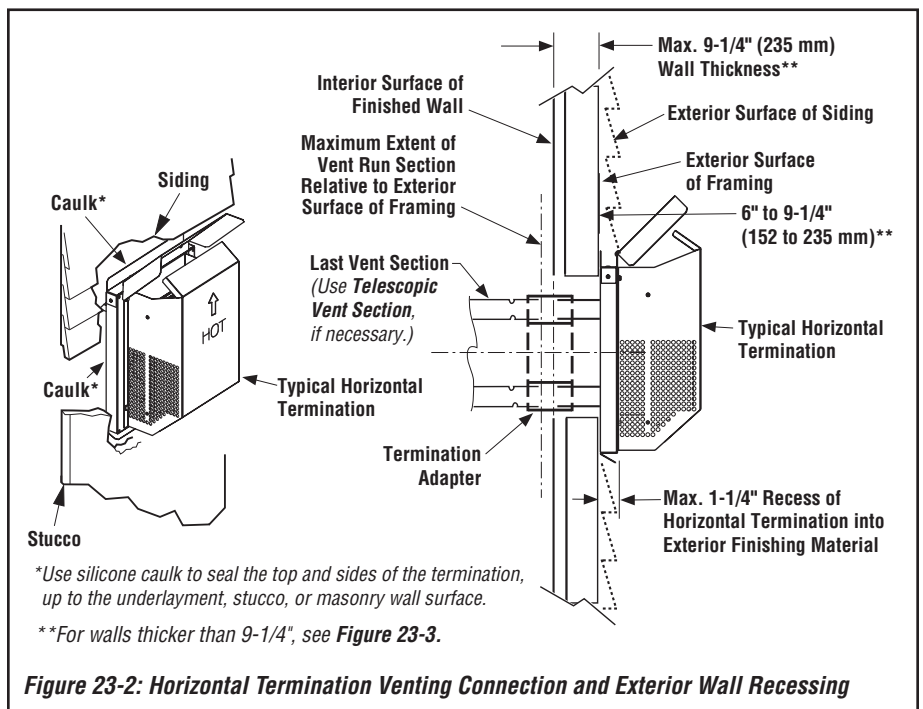

Figure 23-2: Horizontal Termination Venting Connection and Exterior Wall Recessing
Note: For walls thicker than those shown in *Figure 23-2*, see *Figure 23-3*, which lists additional venting components needed (in addition to the termination and adaptor) for a particular range of wall thicknesses.
See *Figure 23-2*. Attach the **termination adaptor** (provided with the termination) to the vent section (or telescoping vent section or elbow) in the same manner as the other vent components (see "Attaching Secure Vent Components" on *Page 13*).
- b) Orient the termination housing with the arrow pointing UP (see *Figure 23-2*).
NOTE: The horizontal termination must not be recessed into the exterior wall or siding by more than 1-1/4" (32 mm), as shown in *Figure 23-2*.